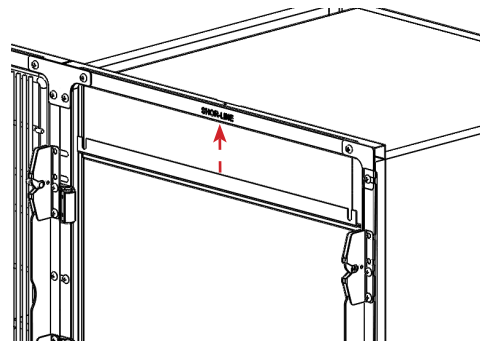

FIGURE 2.12 - Head Seal Installation
**STEP 4:** Align the slots on the head seal (top) with the hardware screws. Slide the head seal under the trim plates. Secure the head seal by tightening the top trim plate screws. See FIGURE 2.12